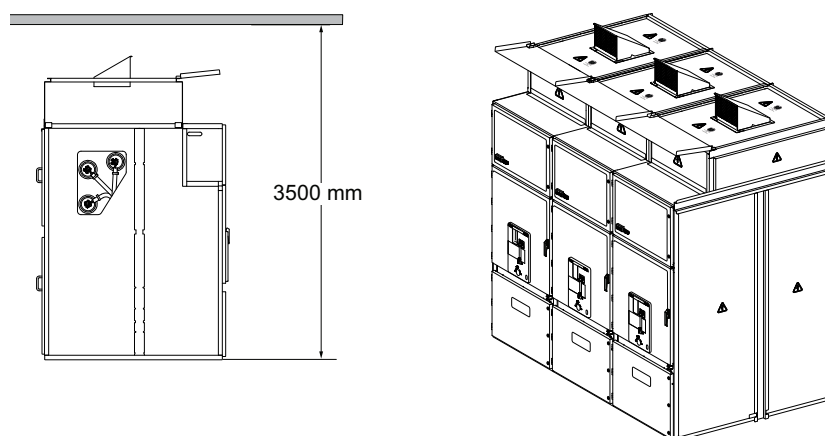
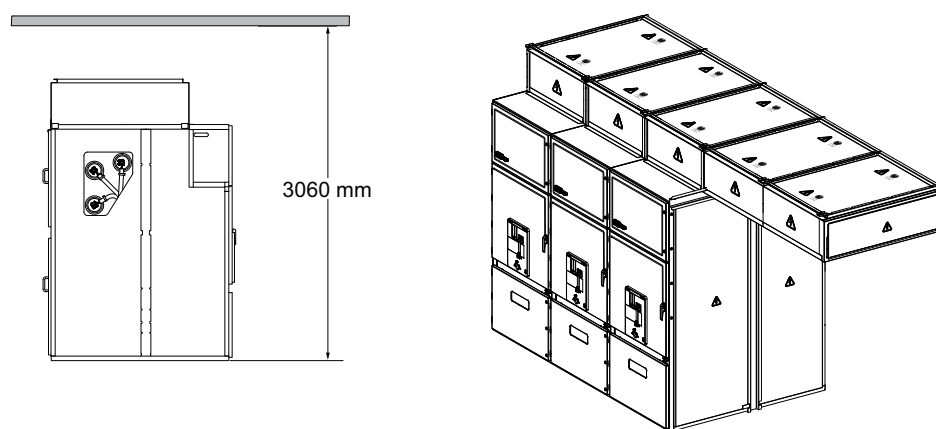

Figure 2
Figure 3
- Ensure to maintain Schneider recommended minimum ceiling height for internal and external exhaust. For details, refer to Figure 2 and Figure 3.